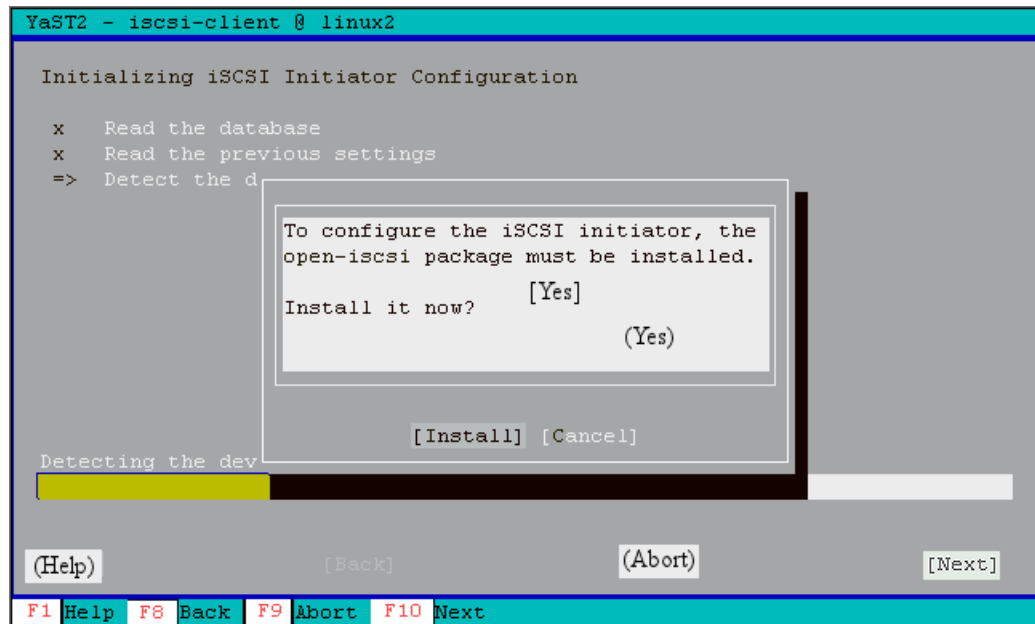

Figure 20-16 Press Enter key to install the necessary packages
2. Now it is necessary to configure the iSCSI initiator that is also called client. On a Linux terminal type `yast iscsi-client`. A panel for installing the necessary packages will appear as shown in Figure 20-16 on page 603. Press Enter to select Install. You need to have the SLES CD-ROM installation media or an online software repository previously configured.